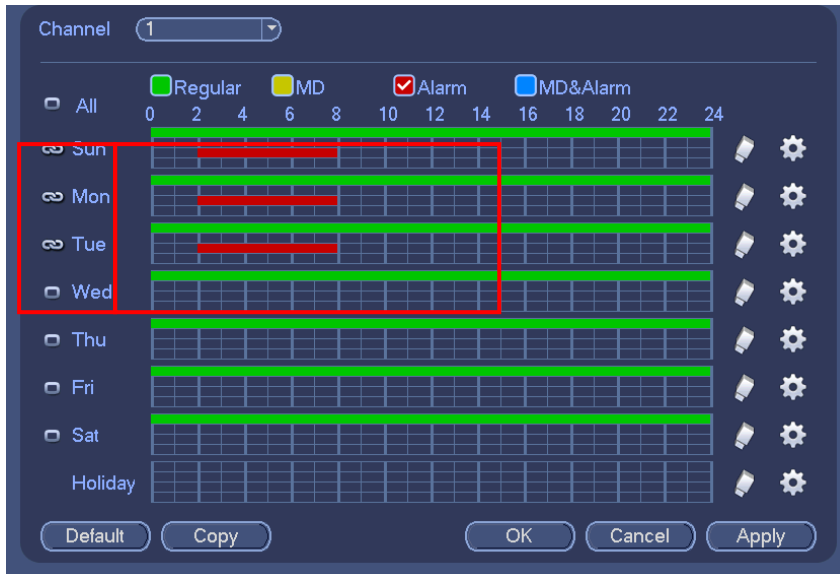

Figure 4-171
- ✧ Please draw manually to set record period. There are six periods in one day. See Figure 4-171.